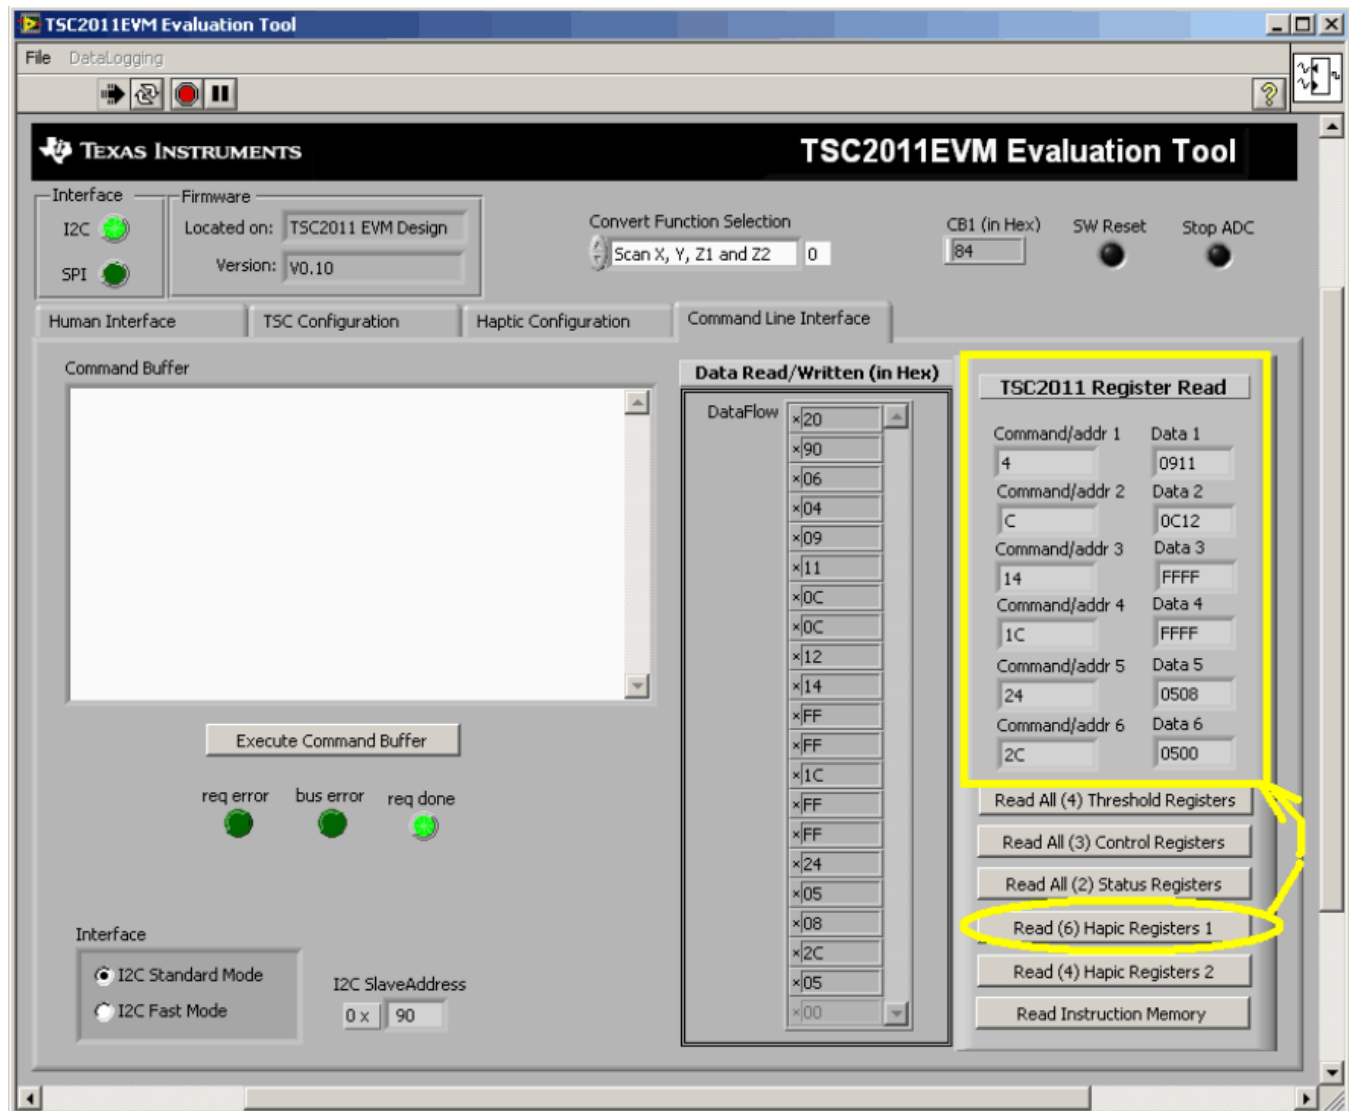

Figure 14. TSC2011EVM-PDK Software GUI: Read 6 Haptic Registers Option
Figure 14 shows a read result of the six haptic registers after clicking on the **Read (6) Haptic Registers 1** button.